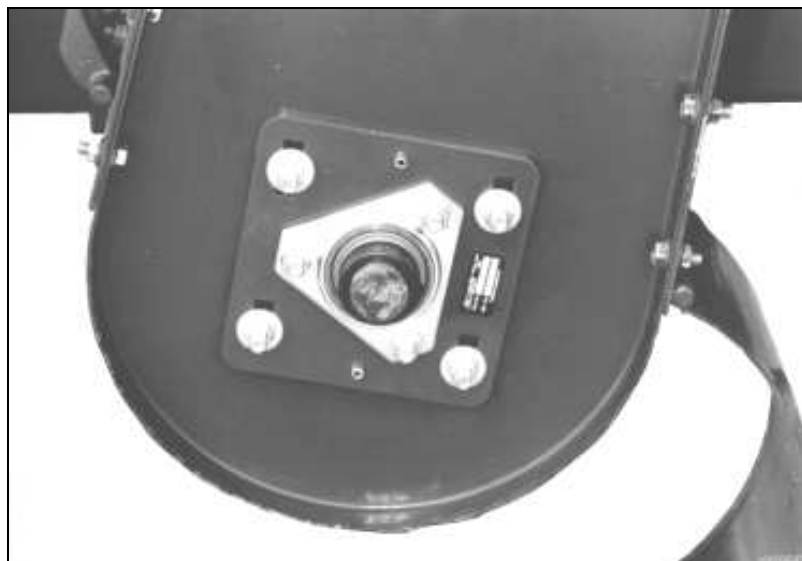

Figure 14. Lower adjuster installed
8. Re-connect elevator chain. If required, add (1) or (2) provided offset links.
11. When fully installed, lower adjuster will look like Figure 14.